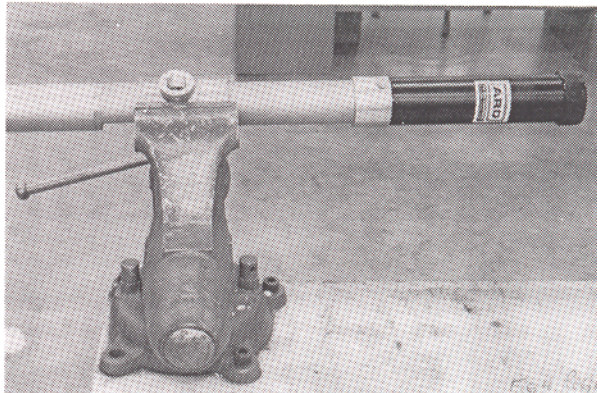

FIGURE 3
1. Place the 2" differential pump in a vise as shown in Fig. 3. Rotate the pump ass'y. so that the material outlet is resting against the vise.